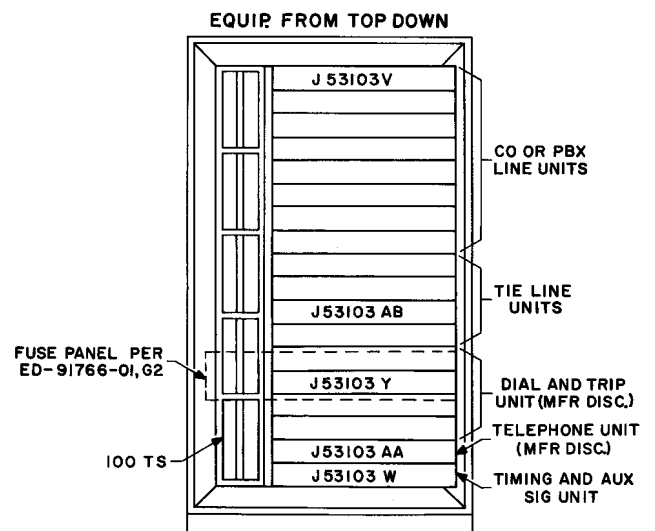

Fig. 1 — Typical Cabinet Arrangement
- Fig. 1 shows typical unit arrangement.